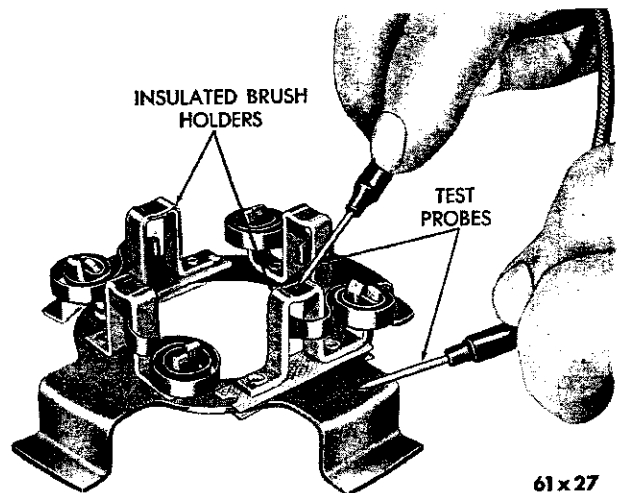

Fig. 17—Testing Insulated Brush Holders for Ground
(7) Touch each of the brush holders with one test probe, while holding the other test probe against the brush ring. Two brush holders that are 180 degrees apart should cause the test lamp to light as they are intentionally grounded. The other two brush holders (Fig. 17) should not cause the lamp to light when tested, as they are insulated. If the insulated brush holders cause the lamp to light when tested, it indicates that the brush holders on the brush ring are grounded. Replace the brush ring assembly if the brush holders are grounded.